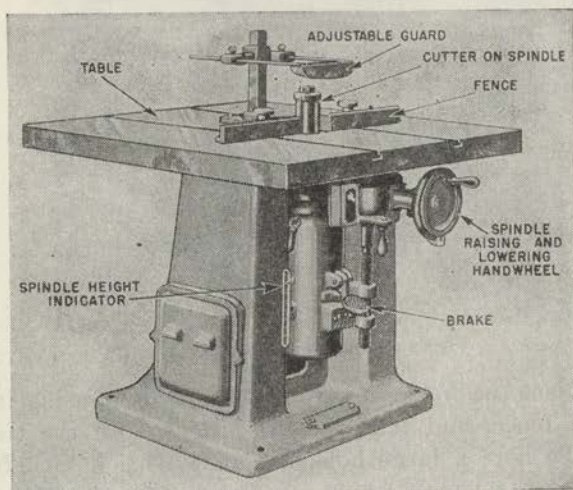

FIGURE 65.—Shaper.
f. Shaper (fig. 65).—The shaper is simply a high-speed motor-driven, vertical spindle, projecting above a table. One of a variety